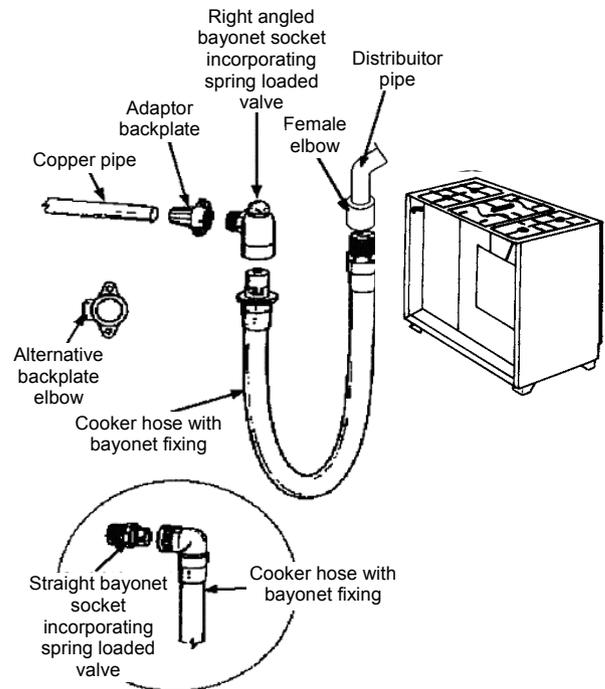

fig. 27
- The appliance flexible connector should not be subjected to undue forces either in normal use or whilst connected or disconnected; The socket which the plug of the appliance flexible connector fits should be permanently attached to a firmly fixed gas installation pipe and positioned such that the appliance flexible connector hose hangs freely downwards (see fig. 27);